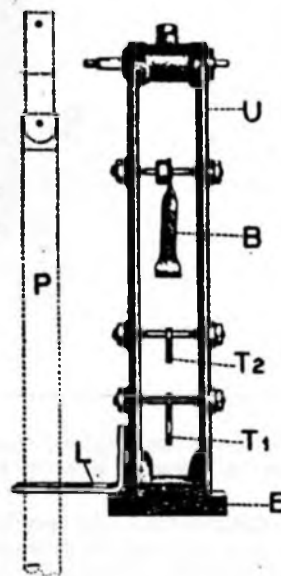

FIG. 2.—"CLOCK No. 46". SIDE VIEW OF IRON CARRIAGE
2. Operation.—The carriage U (Fig. 2) is linked to the pendulum by the forked detail L, and swings in unison with the pendulum. Carriage U carries all the controlling toggles and pawls, whose functions are as follows:—